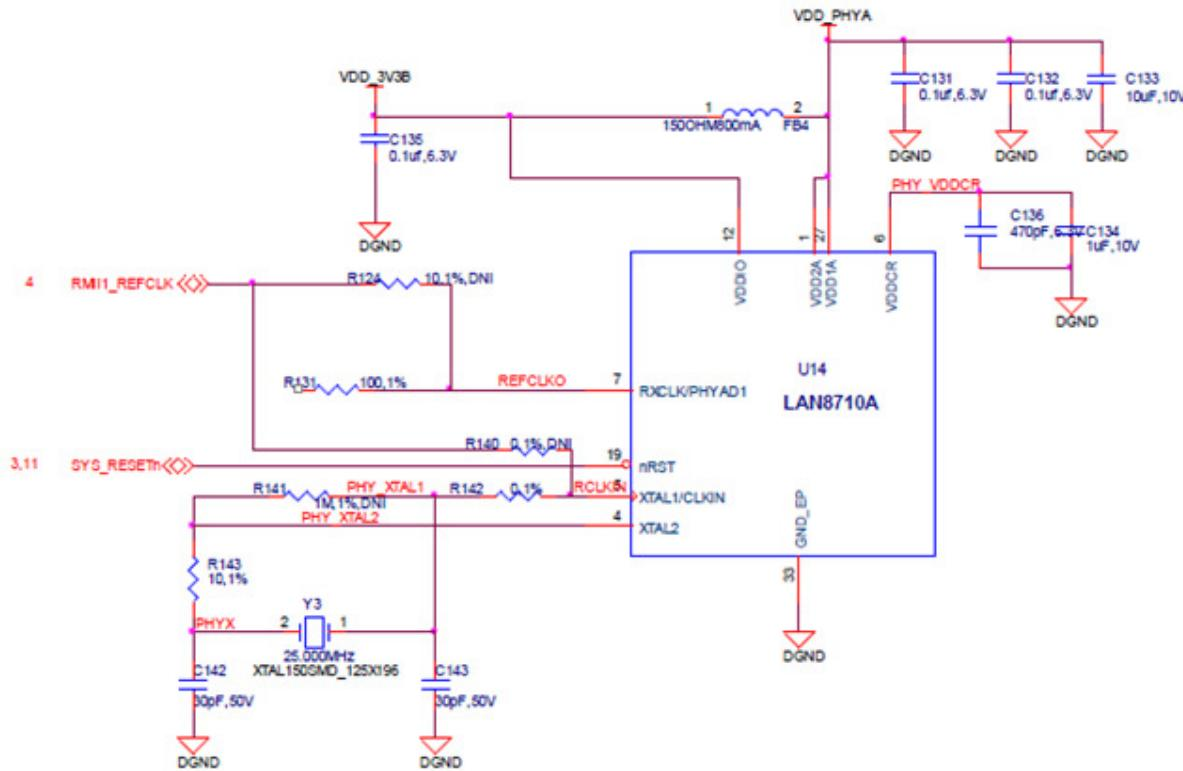

Figure 42      Ethernet. PHY, Power, Reset and Clocks
**Figure 42** shows the power, reset, and lock connections to the **LAN8710A** PHY. Each of these areas is discussed in more detail in the following sections.